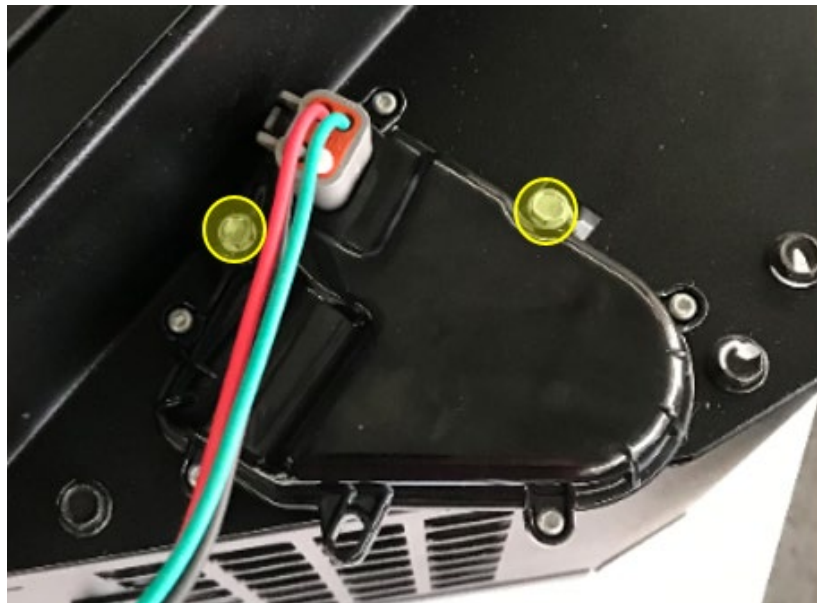

Fig. 4, Screws on the New Actuator
7. Install the new sealed actuator using two hexhead screws and spacers as show in **Fig. 4**.